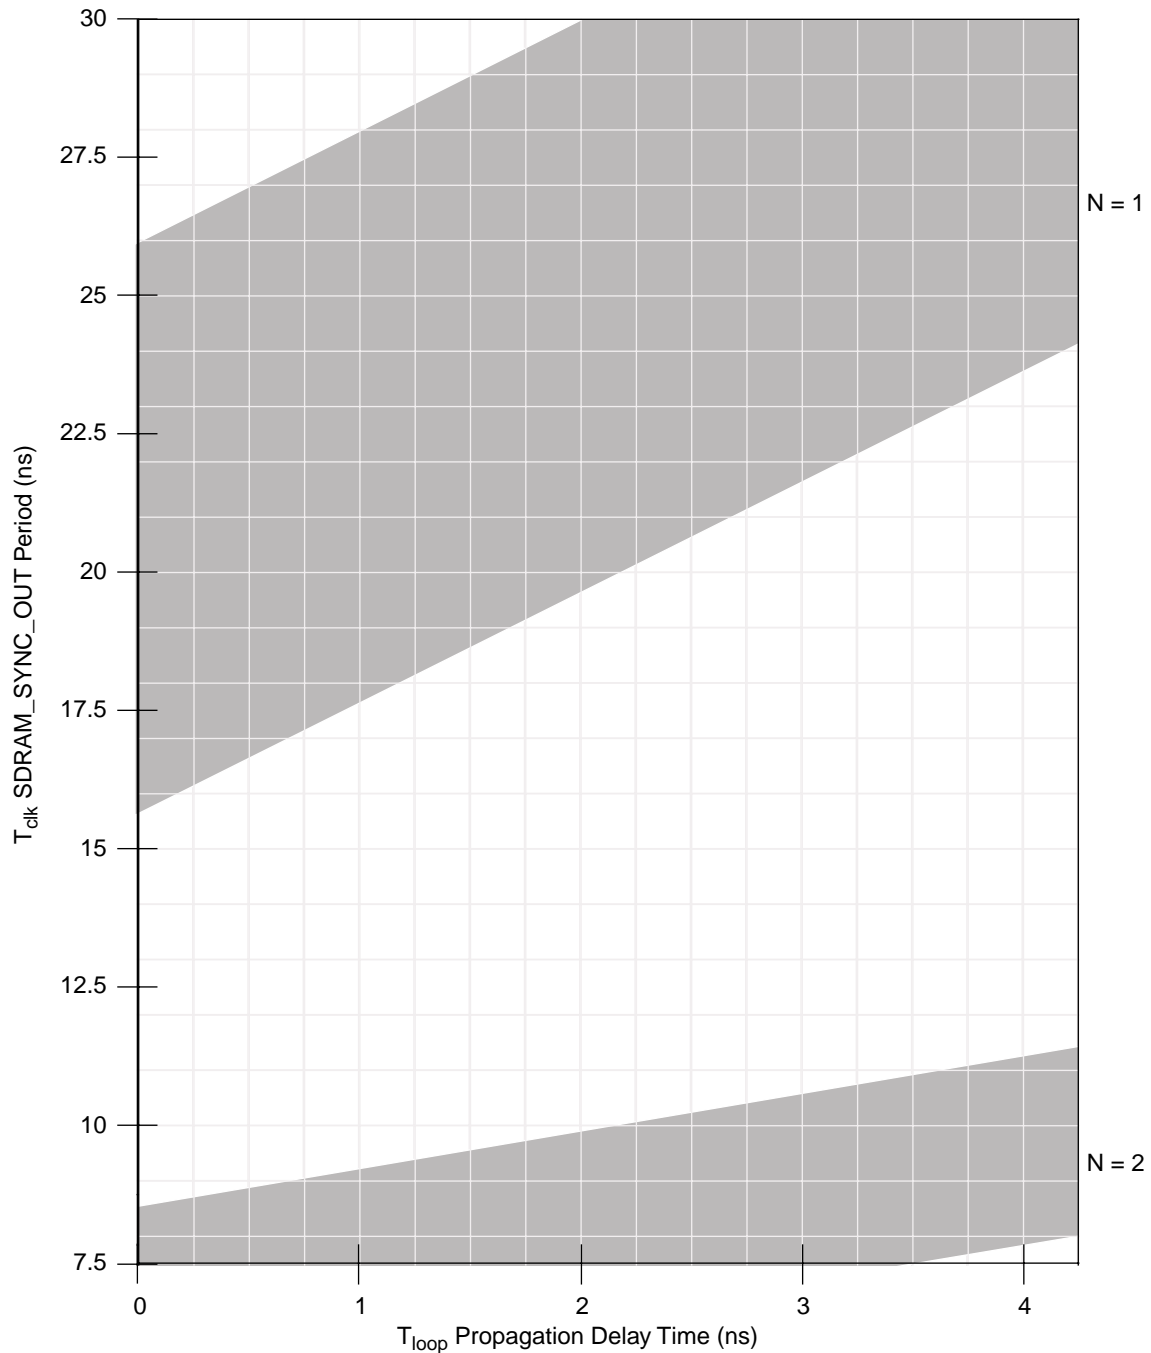
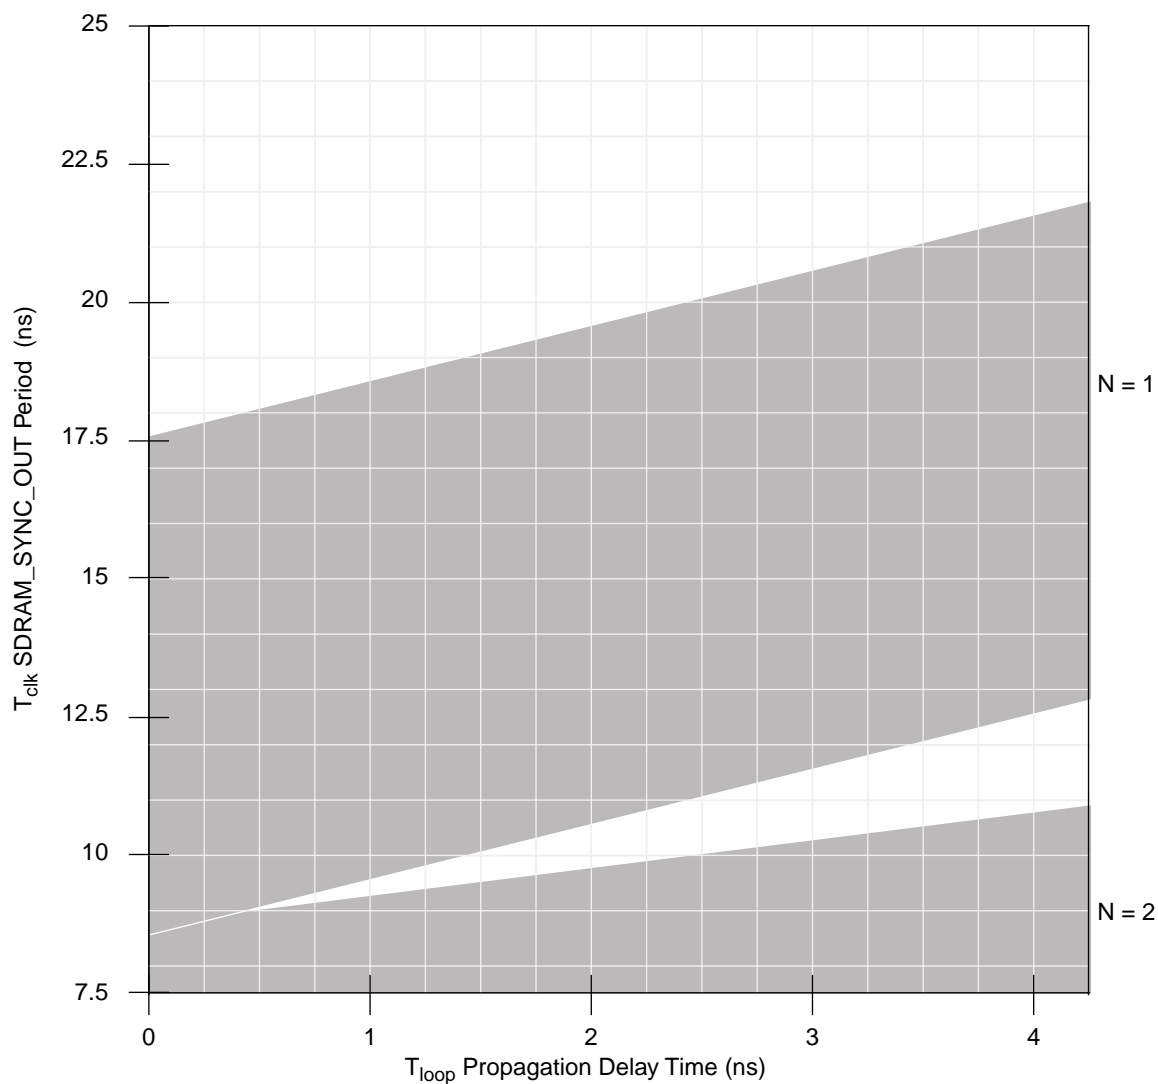

Figure 5. DLL Locking Range Loop Delay vs. Frequency of Operation for DLL_Extend=1 and Normal Tap Delay
Figure 8. DLL Locking Range Loop Delay vs. Frequency of Operation for DLL_Extend=0 and Max Tap Delay
6. DLL_EXTEND is bit 7 of the PMC2 register <72>. N is a non-zero integer (see Figures 5 through 8). T_{clk} is the period of one SDRAM_SYNC_OUT clock cycle in ns. T_{loop} is the propagation delay of the DLL synchronization feedback loop (PC board runner) from SDRAM_SYNC_OUT to SDRAM_SYNC_IN in ns; 6.25 inches of loop length (unloaded PC board runner) corresponds to approximately 1 ns of delay. $T_{dp(max)}$ and $T_{dp(min)}$ are dependent on tap delay. See Table 9 for values of $T_{dp(max)}$ and $T_{dp(min)}$. See Figure 5 through Figure 8 for DLL locking ranges. Refer to Motorola Application Note AN2164, *MPC8245/MPC8241 Memory Clock Design Guidelines*, for more details on memory clock design and an explanation of how T_{dp} is defined.
Figure 5 through Figure 8 show the DLL locking range loop delay vs. frequency of operation. These graphs define the areas of DLL locking for various modes. The grey areas represent where the DLL will lock.
- T_{OS} represents a timing adjustment for SDRAM_SYNC_IN with respect to *sys_logic_clk*. Due to the internal delay present on the SDRAM_SYNC_IN signal with respect to the *sys_logic_clk* inputs to the DLL, the resulting SDRAM clocks become offset by the delay amount. The feedback trace length of SDRAM_SYNC_OUT to SDRAM_SYNC_IN must be shortened by this amount relative to the SDRAM clock output trace lengths to maintain phase-alignment of the memory clocks with respect to *sys_logic_clk*. Note that the DLL locking range graphs of Figure 5 through Figure 8 compensate for T_{OS} and there is no additional requirement to shorten T_{loop} by the duration of T_{OS} . Refer to Motorola Application Note AN2164, *MPC8245/MPC8241 Memory Clock Design Guidelines*, for more details on accommodating for the problem of T_{OS} and trace measurements in general.